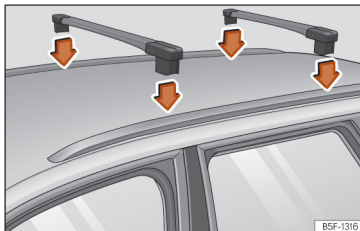

Fig. 195 Mounting points for the roof bars for the roof rack (Leon Sportstourer).
Valid for the Leon Sportstourer: The crossbars are assembled on the roof railings »» Fig. 195. The distance between cross bars (A) should be approx. 75 cm and the distance between the front bars and the front bracket of the side roof bar (B) should be 30 cm.